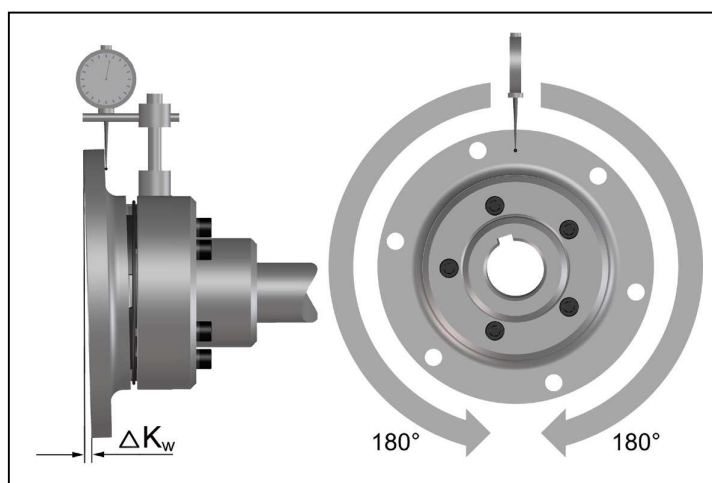

Fig. 7
- Measure one complete revolution (360°) on the face of the outer diameter. Determine the largest deviation ΔK_{w1} and the smallest deviation ΔK_{w2} (Fig. 7).